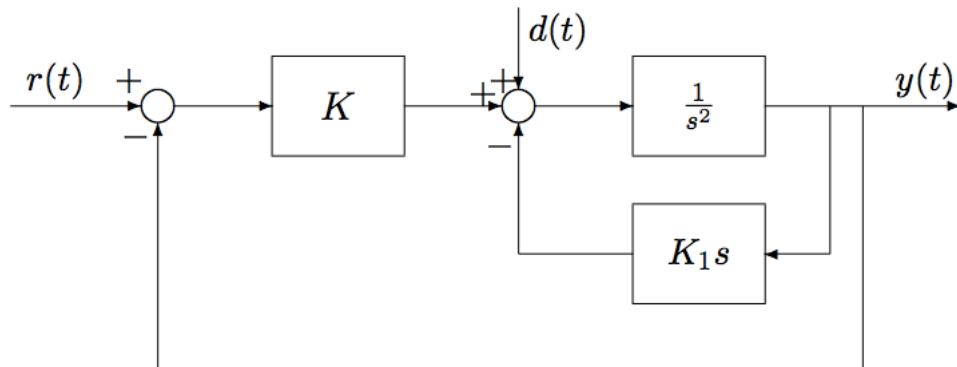

Figure 8: Telescope-Pointing system
9. Consider the model of a telescope-pointing system shown in Figure 8. The goal is